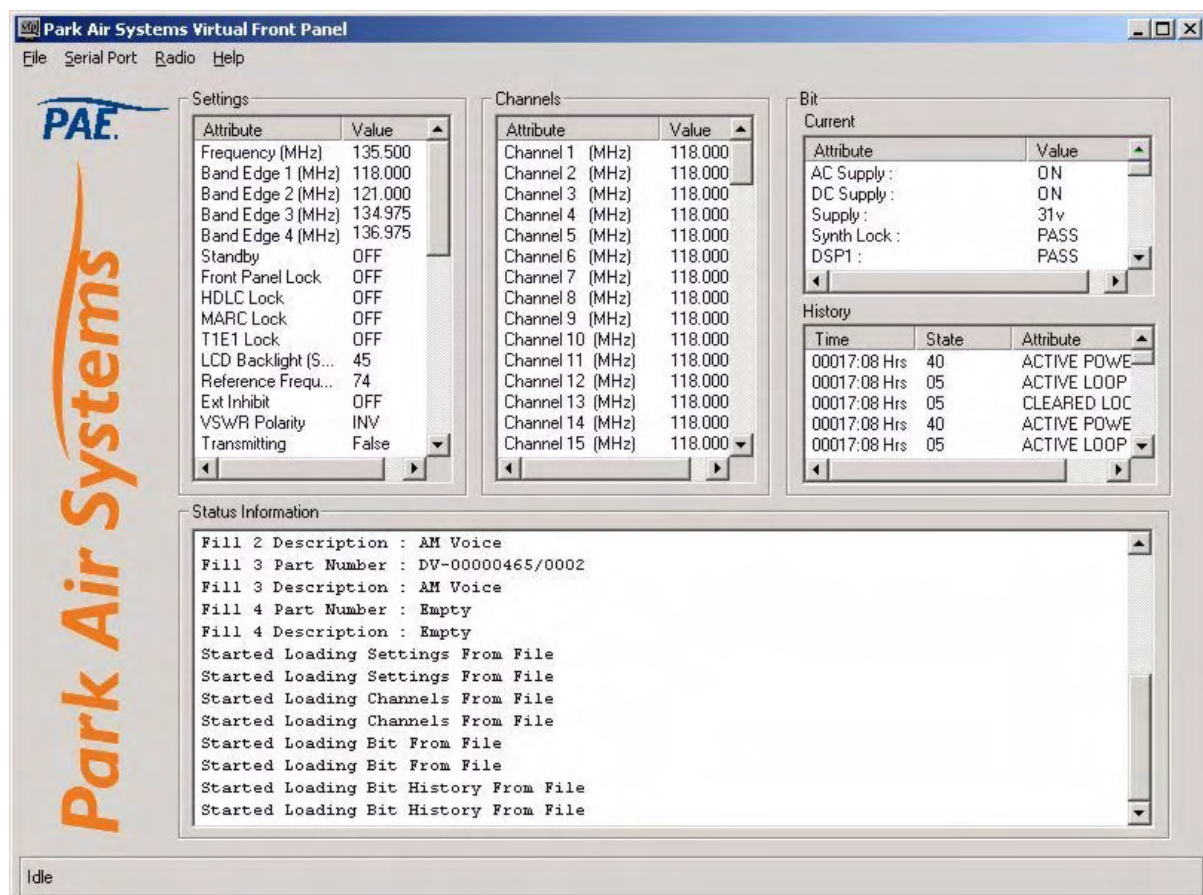

Fig 31 Typical VFP Screen - AM-Voice Profile Shown
- Front Panel Lock is available only when using the VFP. As part of the drive assembly Settings (see Fig 31), Front Panel Lock can be set to ON. When selected to on, no settings or frequency information can be changed from the front panel